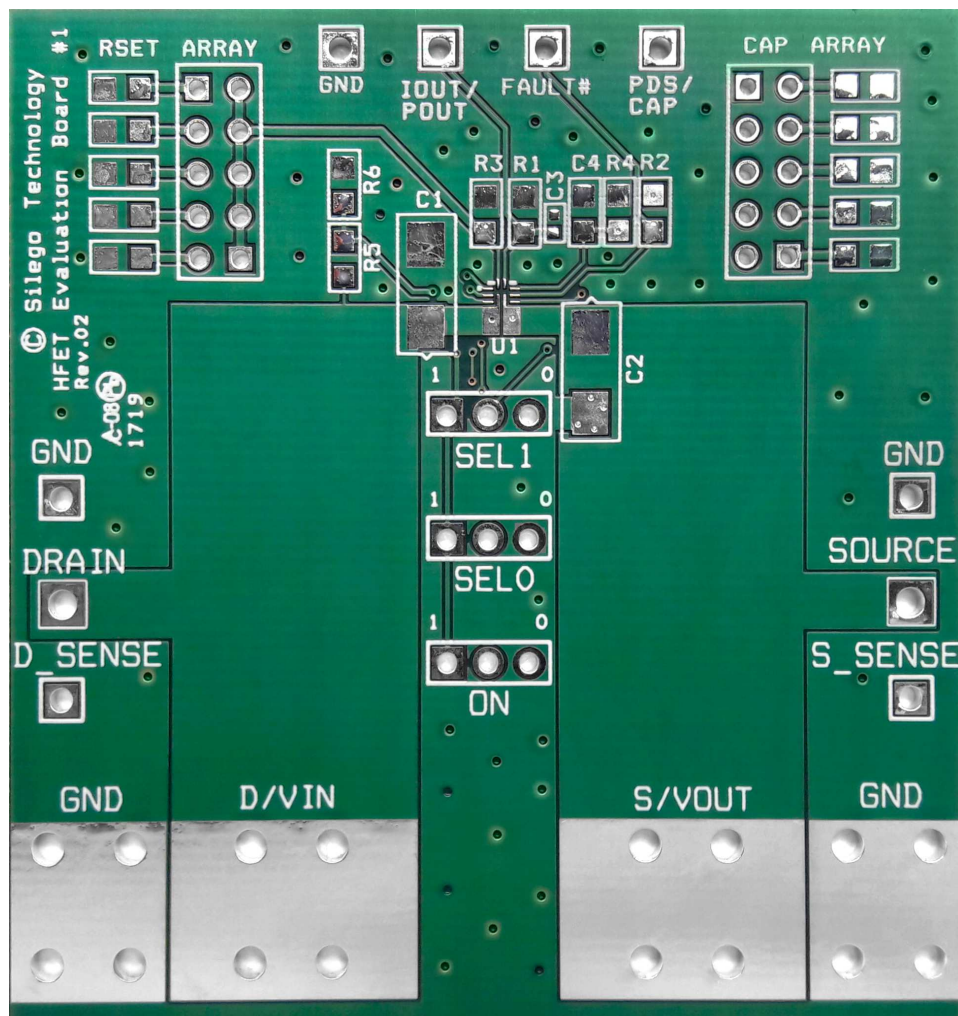

Figure 9. SLG59H1009V Evaluation Board
1. Since the VIN and VOUT pins dissipate most of the heat generated during high-load current operation, it is highly recommended to make power traces as short, direct, and wide as possible. A good practice is to make power traces with an absolute minimum widths of 15 mils (0.381 mm) per Ampere. A representative layout, shown in Figure 9, illustrates proper techniques for heat to transfer as efficiently as possible out of the device;
A High Voltage GreenFET Evaluation Board for SLG59H1009V is designed according to the statements above and is illustrated on Figure 9. Please note that evaluation board has D_Sense and S_Sense pads. They cannot carry high currents and dedicated only for $R_{DS(ON)}$ evaluation.